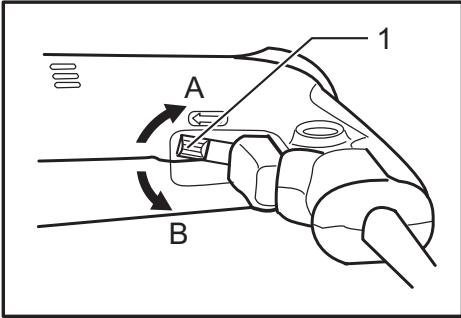

Fig.2
► **Fig.2:** 1. Reversing switch lever